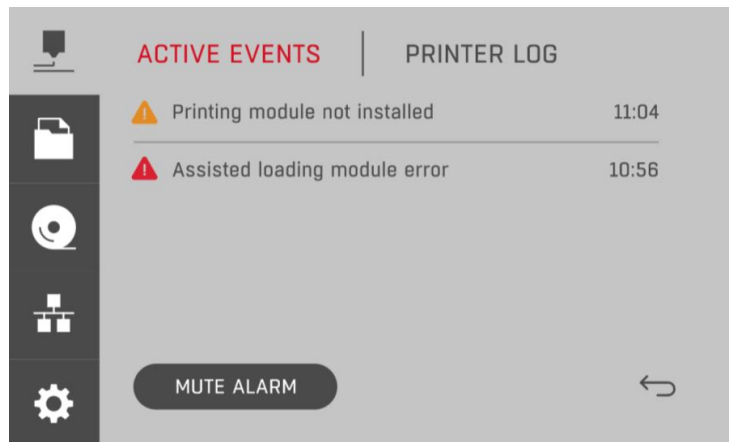

Fig. 27 Notifications screen – active events
8. **Notification button** – access the notifications screen (Fig. 27, 28).